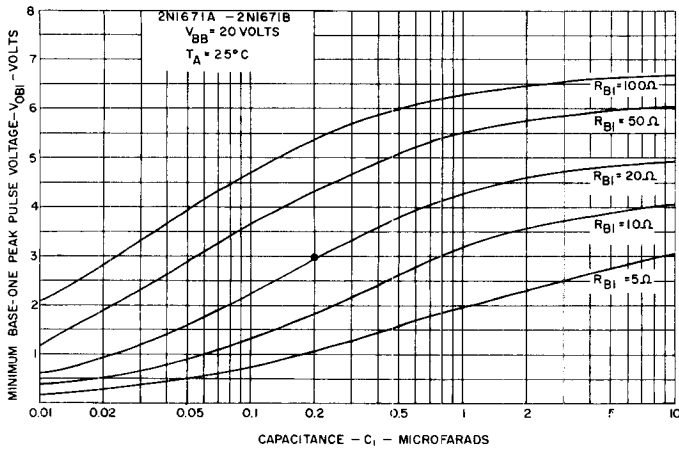

FIG. 12
(5) The base-one peak pulse voltage is measured in the circuit below. This specification on the 2N1671A is used to ensure a minimum pulse amplitude for applications in SCR firing circuits and other types of pulse circuits. The variation of pulse amplitude with temperature and circuit parameters is shown in figures 12 to 15.